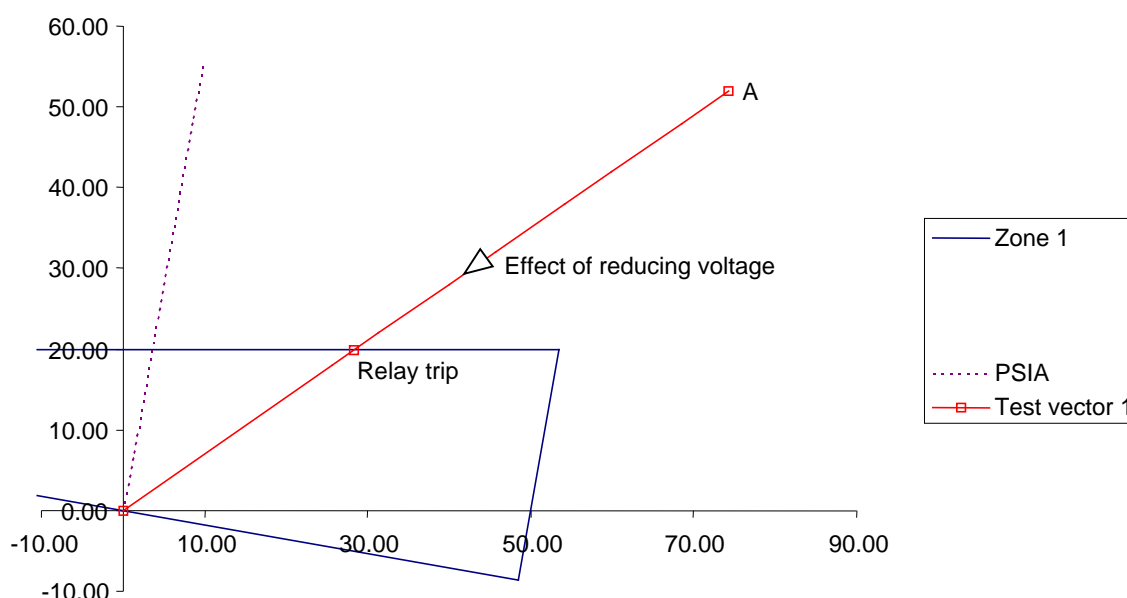

Figure 6. Finding a zone boundary by varying the voltage
- Apply an initial impedance to the relay outside all zones (point A on figure 6) by setting the voltage on the DVS3 to an appropriate value. This point is always on the angle of the test vector, and placed outside the outermost zone of operation.